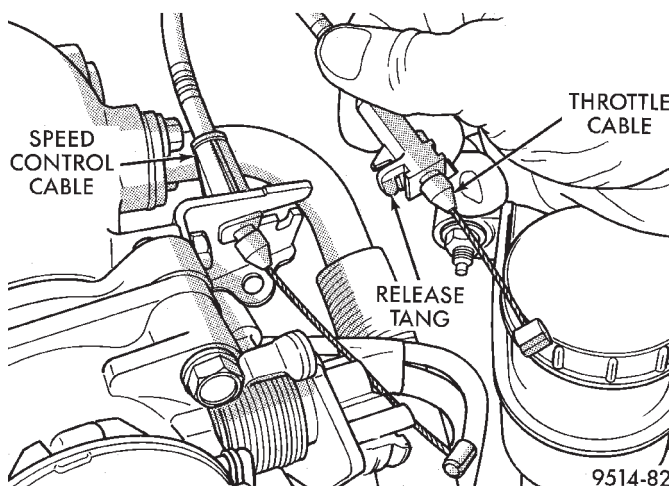

Fig. 32 Throttle Cable Attachment
(11) Pry retainer tab back on throttle cable and slide cable out of bracket (Fig. 32).
(12) Slide Speed control cable out of bracket, if equipped (Fig. 32).